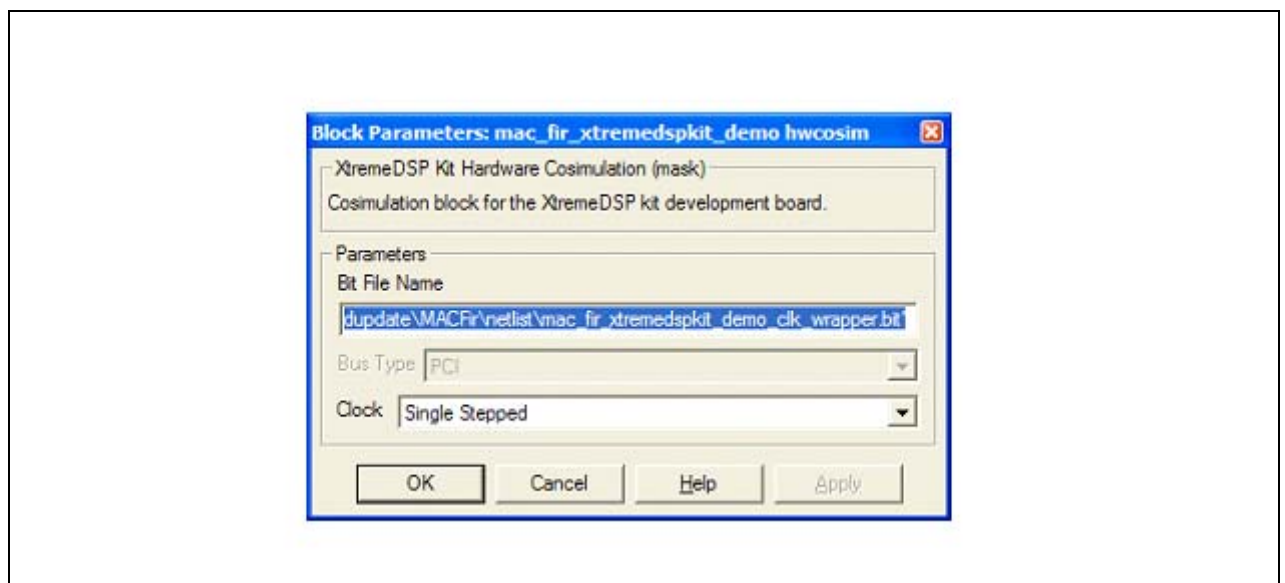

Figure 133: Hwcossim Parameters
5. Double click on the 'mac_fir_xtremedsplit_demo_hwcossim' block to bring up the control dialog shown in **Figure 133 on page 207**.